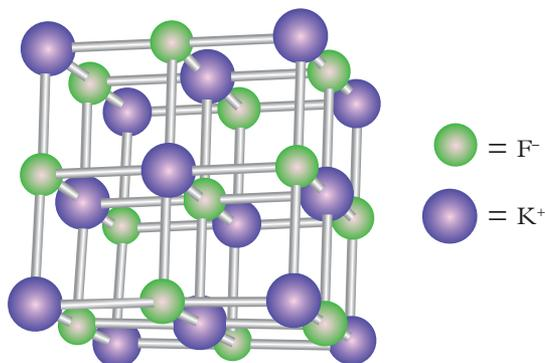

FIGURE 1 The arrangement of potassium and fluoride ions in potassium fluoride
- 12 The arrangement of potassium ions and fluoride ions in solid potassium fluoride is represented in Figure 1. The arrangement extends in three dimensions to represent a crystal.